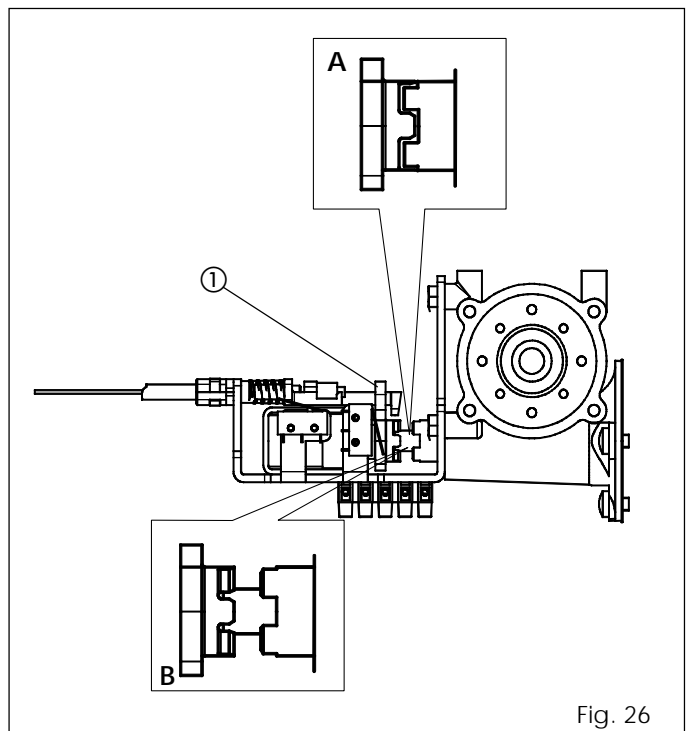
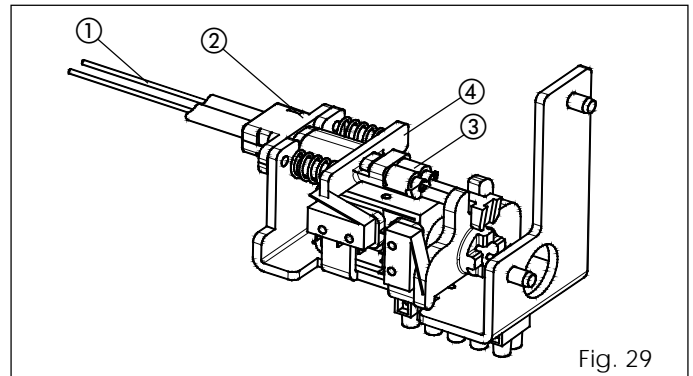

Fig. 26
Fig. 29
- Manually push the lever (fig. 26 ref. ①) toward the motor shaft, checking for correct meshing as per fig. 26 ref. A.
- Move the lever (fig. 26 ref. ①) vertically and check if there is play between the motor-shaft and motor-lock coupling.
- Thread the cable (fig. 29 ref. ①) inside part ②, leaving the sheath at its limit stop.
- Fit the cable on the terminal (fig. 29 ref. ③).
- Pull part ④ to its limit stop (compressing the springs) and tighten the screw of the terminal ③, thus securing the steel cable.
- Make sure that the motor lock coupling is clear of the motor shaft coupling (fig. 26 ref. B).